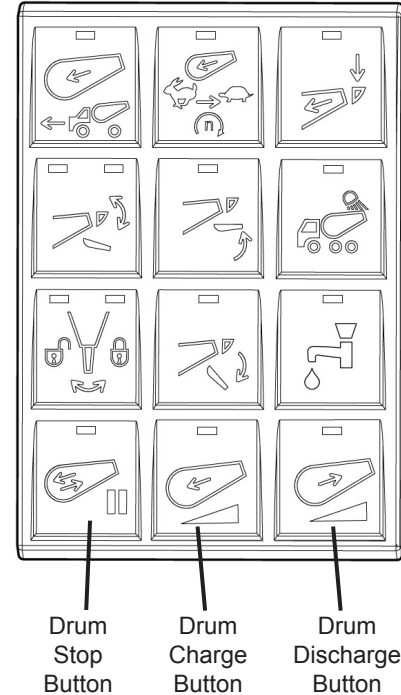

Figure 11
1. Make sure the drum Start/Stop button indicator is OFF on the in-cab control keypad by pressing the button to toggle the light on/off (Figure 11).
2. Press the appropriate button, either Charge or Discharge on the in-cab keypad (Figure 11).
**NOTE:** Charge and Discharge keypad button LED's will illuminate when the drum is rotating in the charge (CW) or discharge (CCW) direction.